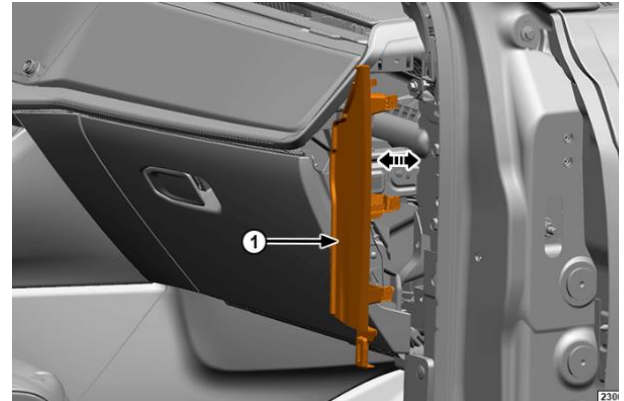

Figure 5 – A-Pillar Extended Trim Panel (Right side shown, left side similar)
- Using a trim stick or equivalent, remove the left A-pillar extended trim panel (1) (Figure 5).